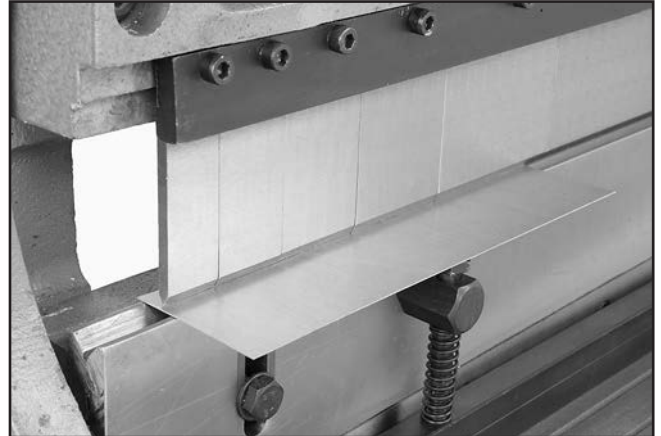

Figure 27. Workpiece alignment.
3. Line up the bend line that is drawn or scribed into the sheet metal with the tips of the fingers (**Figure 27**).